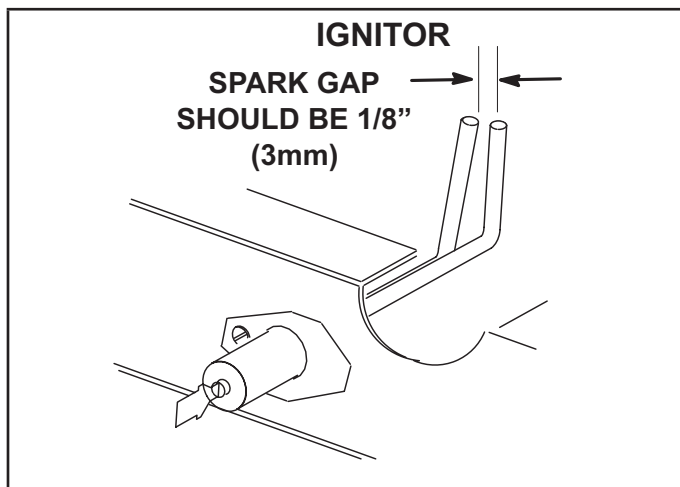

FIGURE 37
- 5 - Locate the ignitor under the right burner. Check ignitor spark gap with appropriately sized twist drills or feeler gauges. See FIGURE 37.